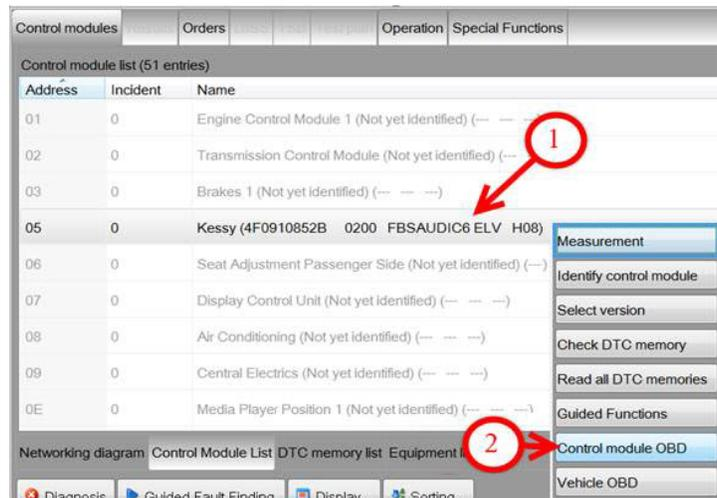

Figure 3. Right-click **Address 05** (1), then click **Control module OBD** (2).
- First, right-click **Address 05**, then click **Control module OBD** from the pop-up menu (Figure 3).